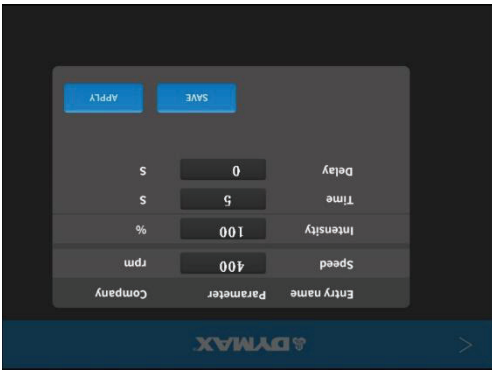

Figure 38. Moving Mode, Parameters Window
- 2) Enter the parameter setting window. (Figure 38.)